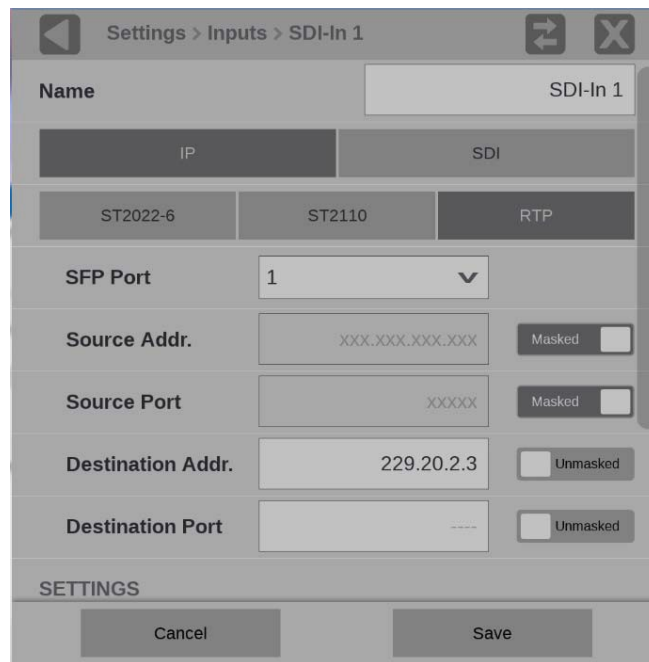

Figure 47: Configure RTP
1. Select **RTP**. (See Figure 47